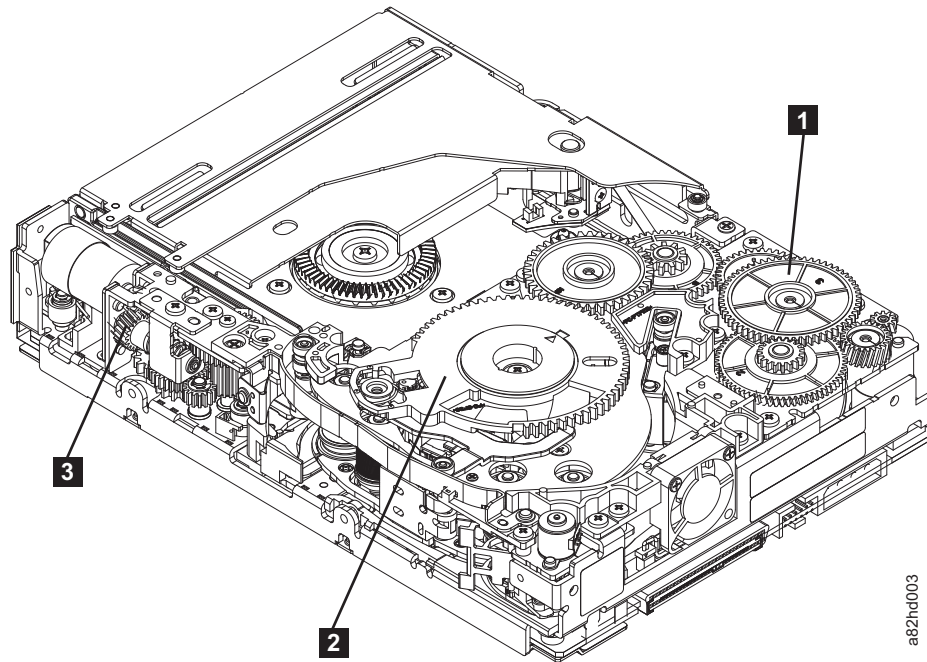

Figure 42. Drive with cover removed to reveal gear train.
4. Locate the threader intermediate gear ( **1** in Figure 42 on page 95) near the rear of the drive. You can use your finger to rotate the threader intermediate gear ( **1** in Figure 42 on page 95) and slowly rotate the threader mechanism gear ( **2** in Figure 42 on page 95) clockwise.
- As the leader pin is secured in the cartridge, you hear the leader pin retention spring clips click into place. If you do not hear the click, continue rolling until the threader intermediate gear (**1** in Figure 42) stops. The LBA is in the correct position.